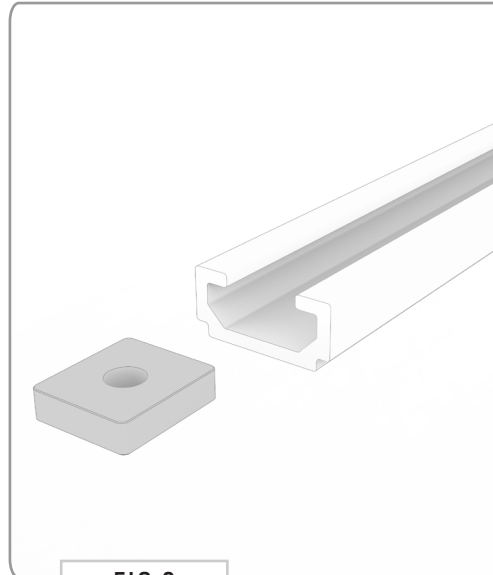

FIG 8
3.1 Roof Rail Nuts: Slide in Rail Nuts to desired location of install along the Roof Rail (**FIG 8+9**).